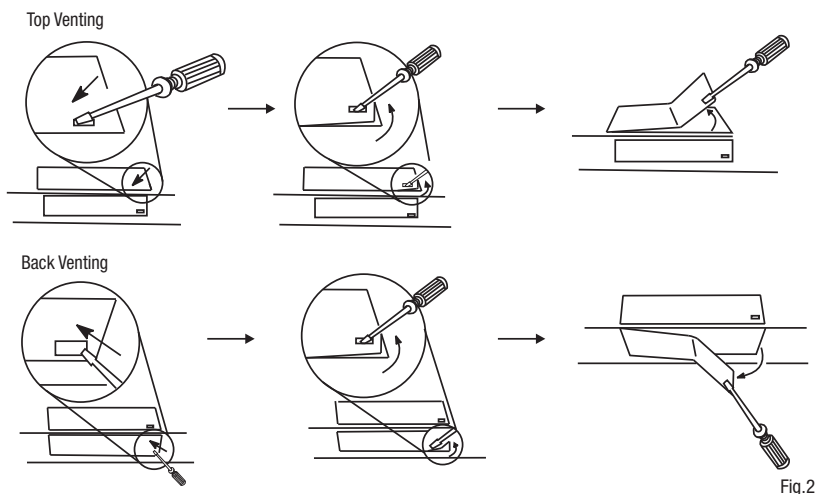

Fig.2
3. Using a flat tipped screw driver, remove the appropriate knock-out for your installation type (fig. 2).